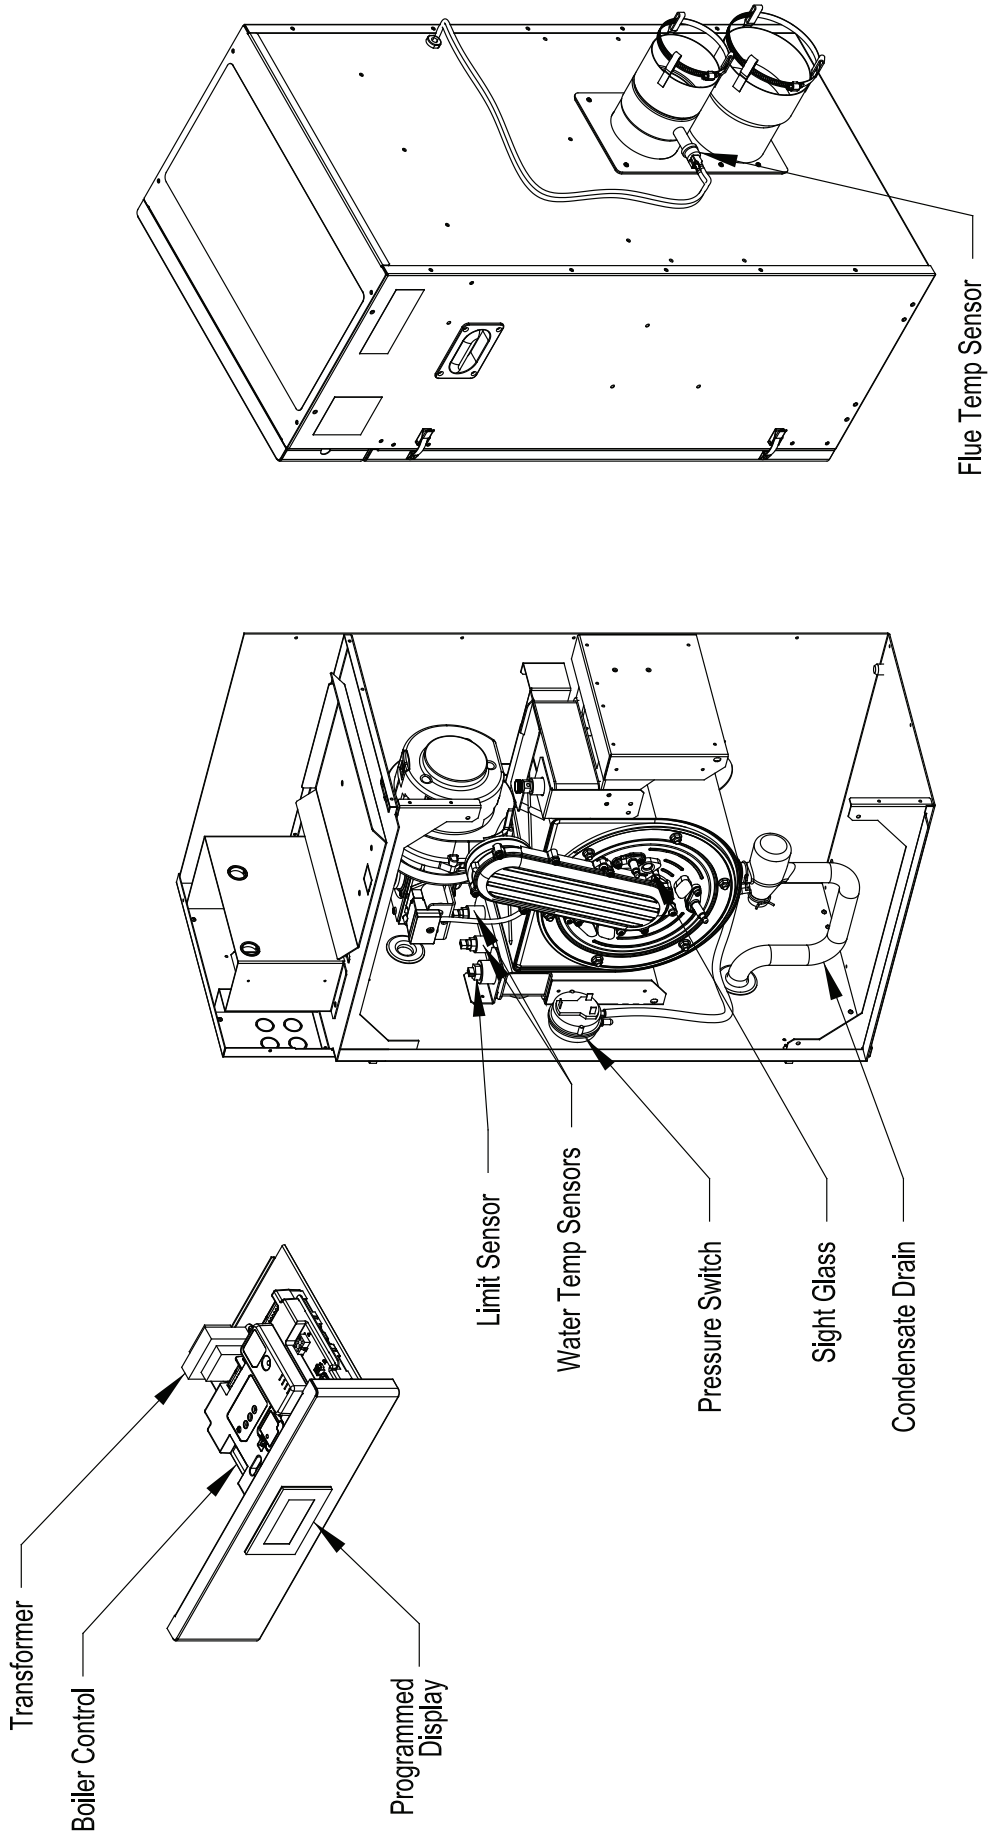

Figure 1: Control Locations
2. **Instructions to safely operate** and shut down this boiler are shown in Figure 2 on page 5, as well as on a label affixed to the boiler. Control locations shown in Figure 1.